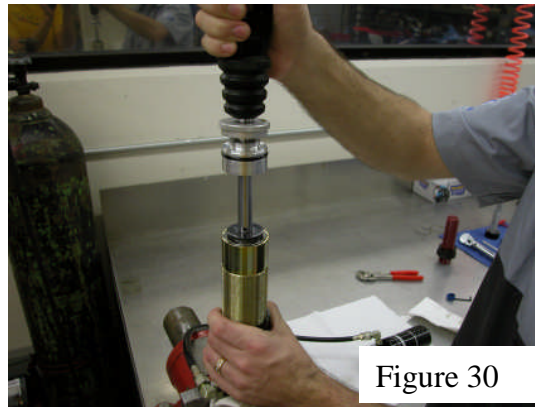

Figure 30
47. Fill the body tube with oil approximately $\frac{1}{2}$ " below the retaining ring groove. Wrap the new piston band around the piston. Insert the shaft assembly into the body tube, allowing oil to overflow. **(Figure 30)** Slowly push shaft into body until piston assembly is approximately 1" below oil surface. Slowly pull shaft assembly out of the body until the rebound ports of the shaft are just below the oil surface. If you pull the shaft out too far you will hear a sucking noise when air is pulled in, and will have to start the bleeding process over. Add oil as necessary. Repeat the previous steps until there are no more bubbles rising to the oil surface.